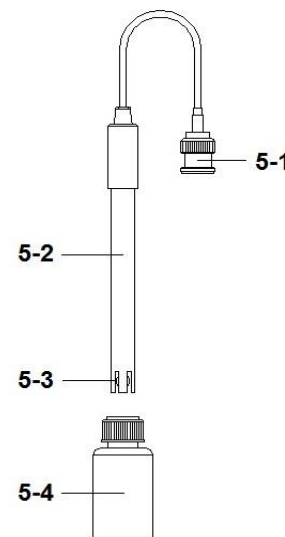

Fig. 2
2. Connect the pH electrode (optional) (5-1, Fig.2) into the pH (BNC socket) (3-16, Fig.1)
5. Hold the electrode handle (5-2, Fig. 2) by hand and let the sensing head (5-3, Fig. 2) immersed wholly into the measured solution and little shake the electrode.
NB! When not use the Electrode, it should immerse the "Electrode sensing head" (5-3, Fig. 2) into the " Protection bottle " (5-4, Fig. 2)
4. Hold the electrode handle (6-2, Fig. 2) by hand and let the sensing head (6-3, Fig. 2) immersed wholly into the measured solution and little shake the electrode, to let the probe's internal air bubble drift out from the sensing head